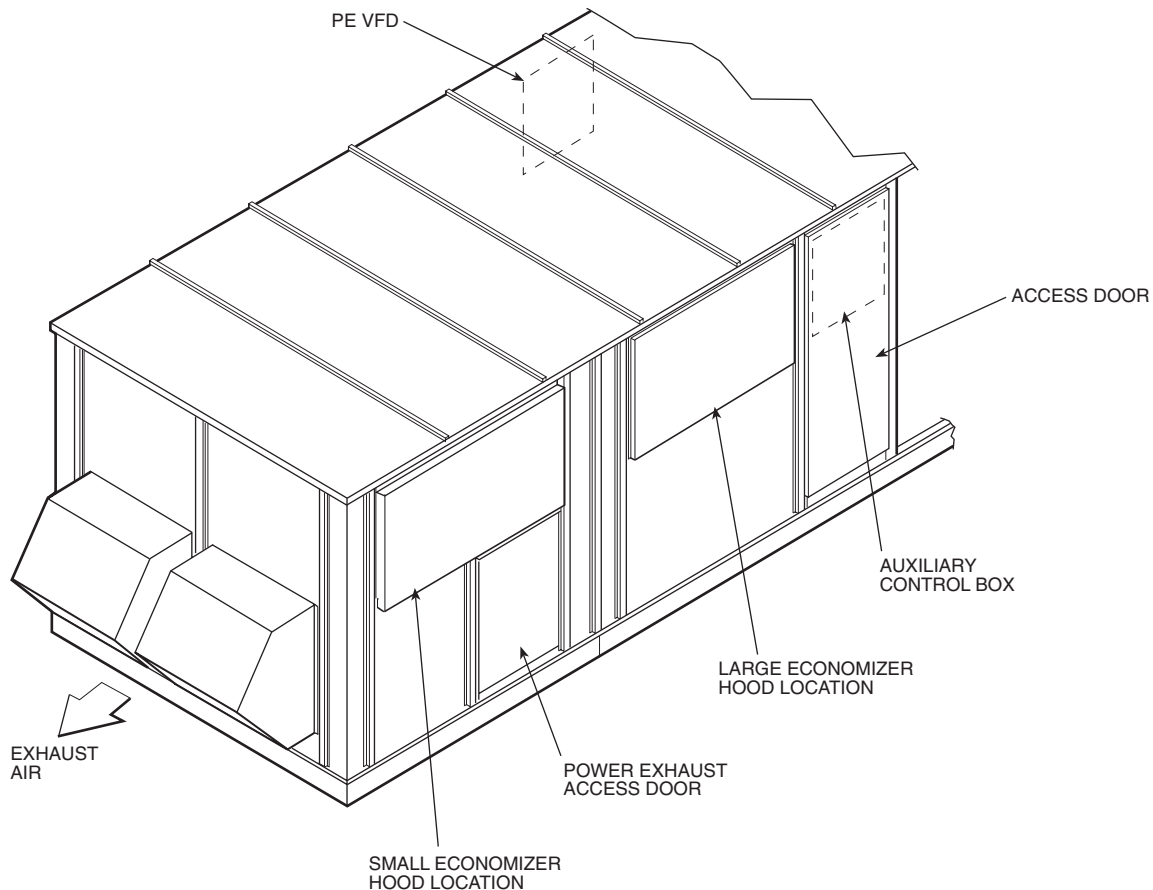

Fig. 51 — High Capacity Power Exhaust Details — 48FN and 50FN,FT Units
POWER EXHAUST VFD CONTROL — On 48FN and 50FN,FT units with factory-installed power exhaust VFD, the power exhaust VFD controls building pressure (BP) in response to input signals received from the base unit PIC control module. The power exhaust VFD is located in the auxiliary control box located on the left hand side of the unit. See Fig. 51. The base unit control monitors building pressure via a different building pressure transducer. The pressure transducer is located in the unit auxiliary control box (see Fig. 51). The pressure transducer's low pressure reference port is routed to the outside of the unit cabinet by a factory-installed tubing section. The pressure transducer's high pressure reference point must be field-routed to the building pressure pick-up which is field-supplied and installed in the building. See Air Pressure Tubing page 41 for recommended location.